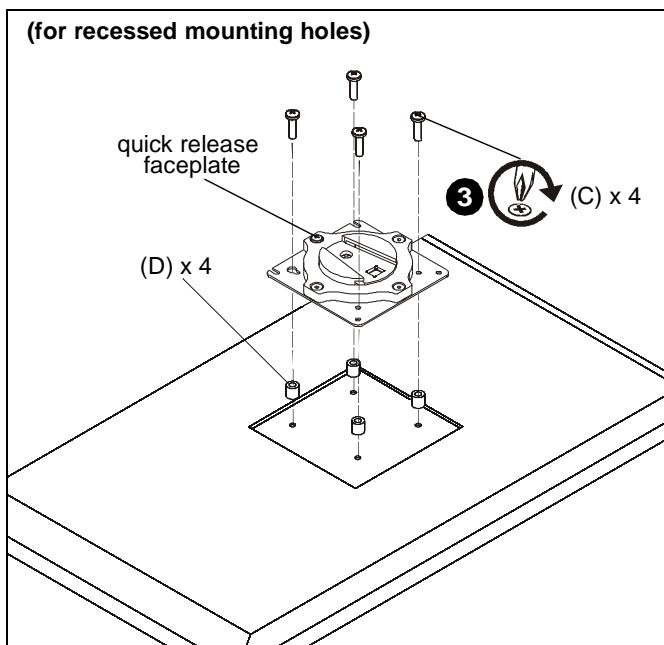

Figure 15
- Place four spacers (D) on top of mounting holes on back of display. (See Figure 15)
- Using Phillips screwdriver, carefully install four M4x20mm screws (C) through corresponding holes on faceplate, spacers (D) and into the mounting holes on the display. (See Figure 15)